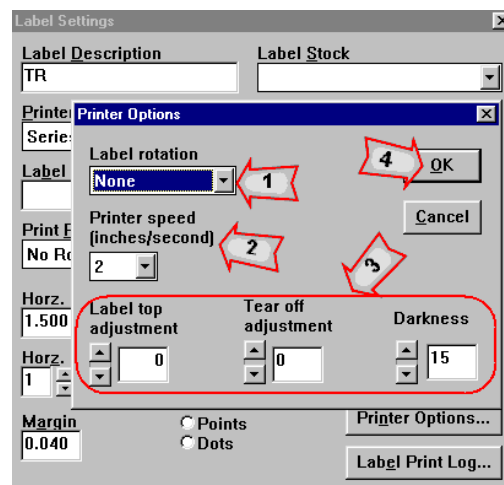

Figure 1-8
1.15. Take note of the values that are in the options called out in Figure 1-8 Arrows 1-3. You will need to know this information later.
1.16. Click [OK]. (Figure 1-8 Arrow 4)